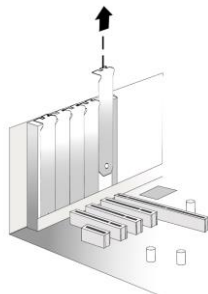

Figure 7. Removing the Slot Cover
4. Select an available PCIe expansion slot that's compatible with your expander card and remove the slot cover, as shown in Figure 7. (To check PCIe bus compatibility of your expander, see Chapter 3 About Your Storage Expander on Page 3.)